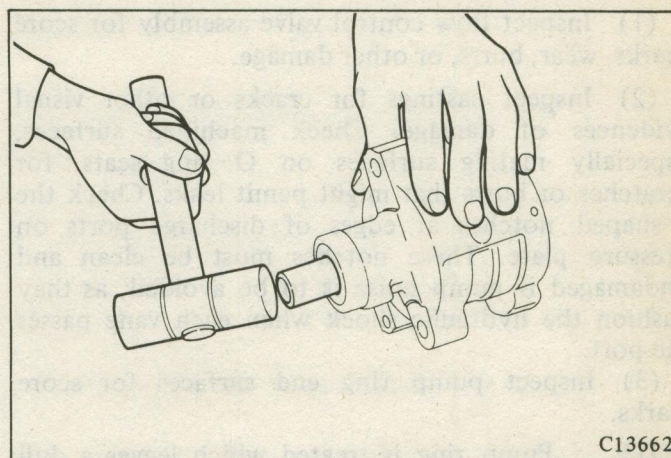

Fig. 99 Unseating Pressure Plate
(7) With end cover O ring removed, tap very lightly on end of drive shaft with plastic hammer, only until pressure plate falls free. (Fig. 99)